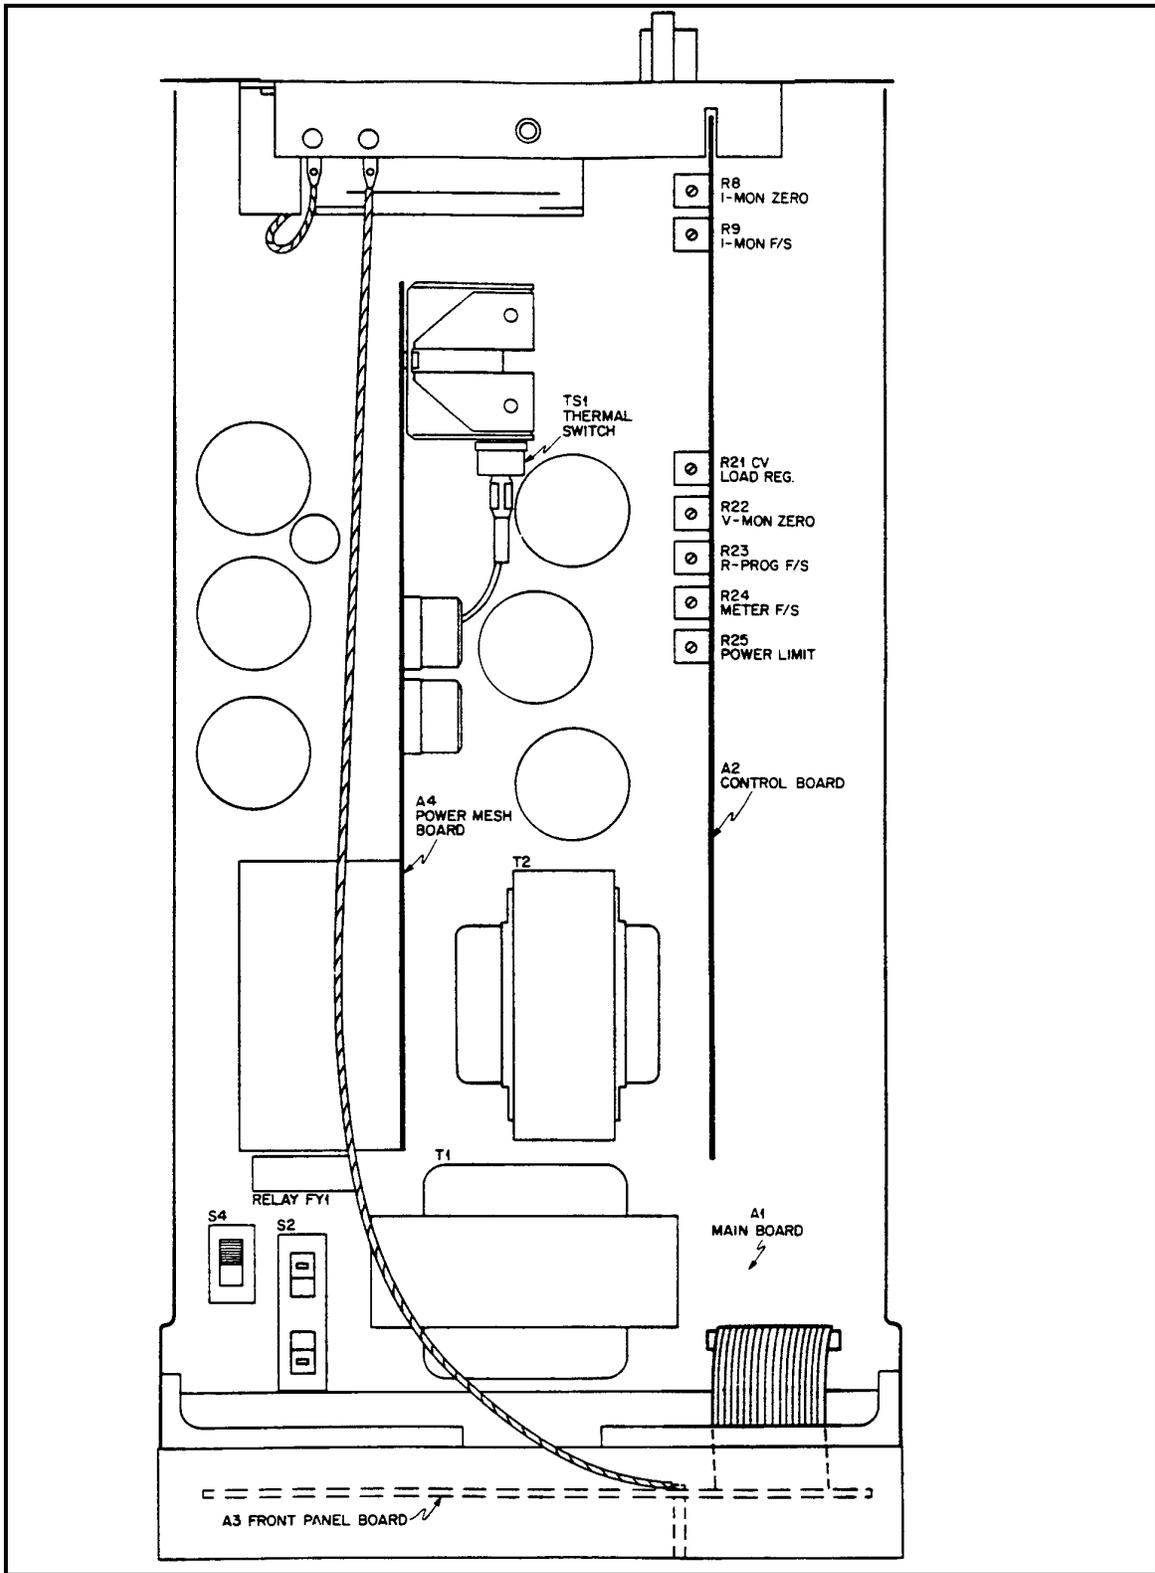

Figure 6-1. Top View, Top Covers Removed
- a. Component location illustrations (Figures 6-1 through 6-5), showing the physical location and reference designators of almost all electrical parts. (Components located on the rear panel are easily identified.)